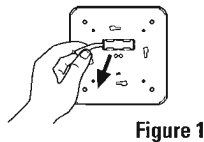

Figure 1
- IMPORTANT:** Remove battery insulator strip from battery compartment (Figure 1). Your lights will not operate or charge if not removed.